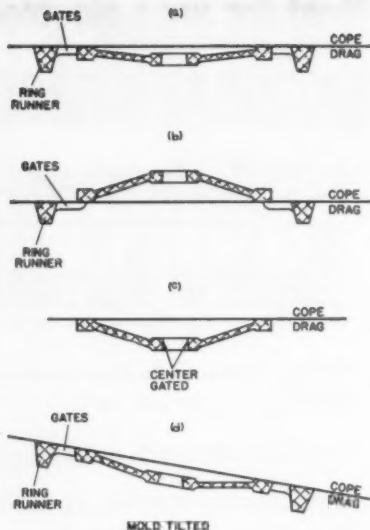

Fig. 3—Flow lines may develop in central part of casting gated as in a. To avoid, use b, c, or d.
The article written on gating and rising of magnesium is very interesting, and although I have had very little experience with this metal, it is my understanding that it should be poured with as little agitation as possible, the same as aluminum and bronze. Fig. 3 of this article (*Gating and Rising of Magnesium*, by H. E. Elliott; in two parts, April and May, 1954, AMERICAN FOUNDRYMAN) shows four different suggestions or methods of pouring a certain casting. To me, the drawing (B) would do the most satisfactory work with the least agitation. Pouring down grade, as at (D) is poor practice in any metal, and usually shows lines of the path the metal has taken from the gates to reach the lowest part of the mold, and many times there is a cold shut along the path the metal has passed.
In his reference to Fig. 3 and his discussion of it, he emphasizes the value of filling the mold by up-hill flow, and avoiding pouring down grade. This is exactly the point that was intended to be conveyed by Fig. 3 and I regret that somehow the point apparently wasn't clear. Items (B), (C), and (D) are all intended to result in up-hill flow. In diagram (D), the metal is introduced into the ring runner at the right, the casting fills from right to left, and the degree of tilt is sufficient so that the right hand wall will not slope down hill.